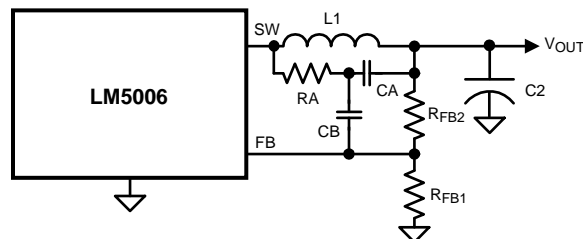

Figure 39. Minimum Output Ripple Using Ripple Injection
b) Minimum ripple configuration: If the application requires a lower value of ripple (<10 mVp-p), the circuit of Figure 39 can be used. R3 is removed, and the resulting output ripple voltage is determined by the inductor's ripple current and C2's characteristics. RA and CA are chosen to generate a sawtooth waveform at their junction, and that voltage is AC-coupled to the FB pin via CB. To determine the values for RA, CA and CB, use the following procedure: